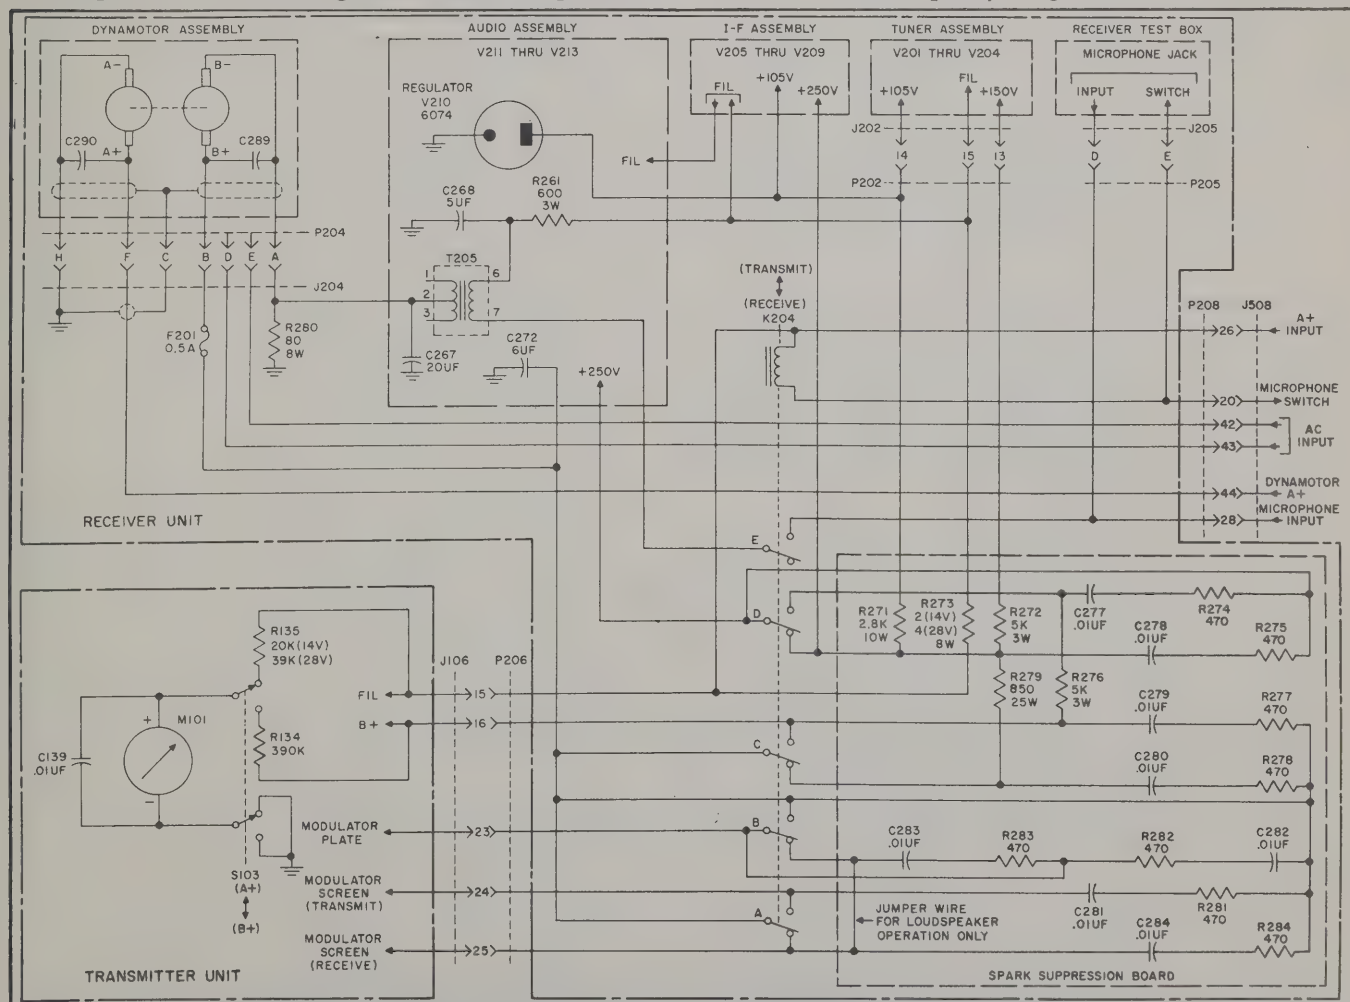

Figure 2-8. Power Supply Circuit, Simplified Schematic Diagram
a. High Voltage Power Supply (See Figure 2-8)